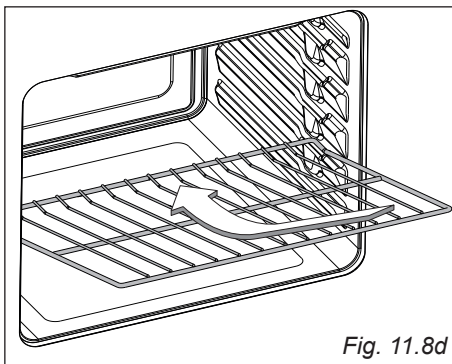

Fig. 11.8d
- The oven shelf is provided with a security block to prevent accidental extraction. It must be inserted operating as per figure 11.8d.